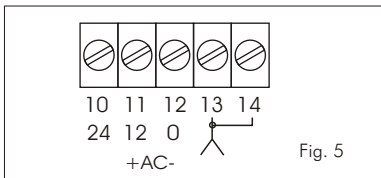

Fig. 5
**1b** - Connect the power supply 12 / 24 Vac/dc to the terminal blocks 10, 11, 12. (fig. 5):